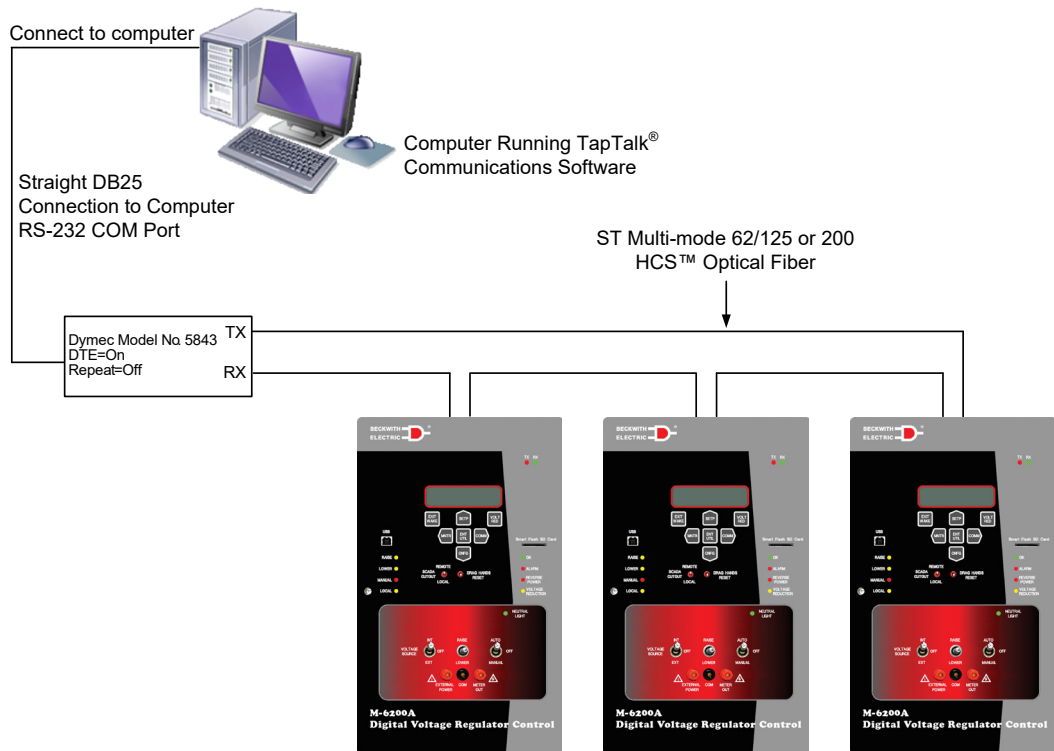

Figure 2 Fiber Optic Connection Loop
**Communications Using Networking:** The addressing capability of the M-6200A allows networking of multiple Beckwith Electric Digital Regulator Controls. Each regulator control can be assigned a Communications Address, Feeder Address or Substation Address ranging from 1 to 65519. Selected commands may be broadcast to all controls on the network. Figures 2, 3 and 4 illustrate typical network configurations. Addresses 1 to 247 can be assigned to MODBUS and 1 to 65519 for DNP3.0.